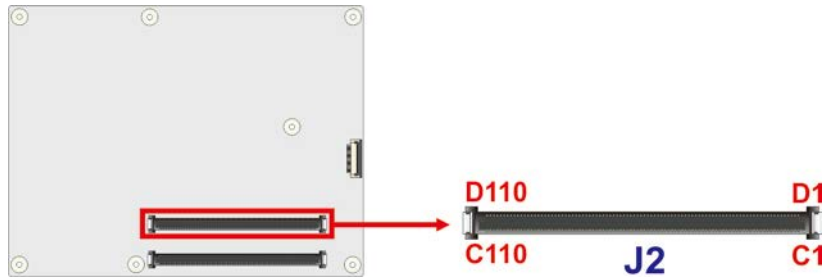

Figure 3-4: COM Express C-D Connector Location
- CN Location:** See **Figure 3-4**